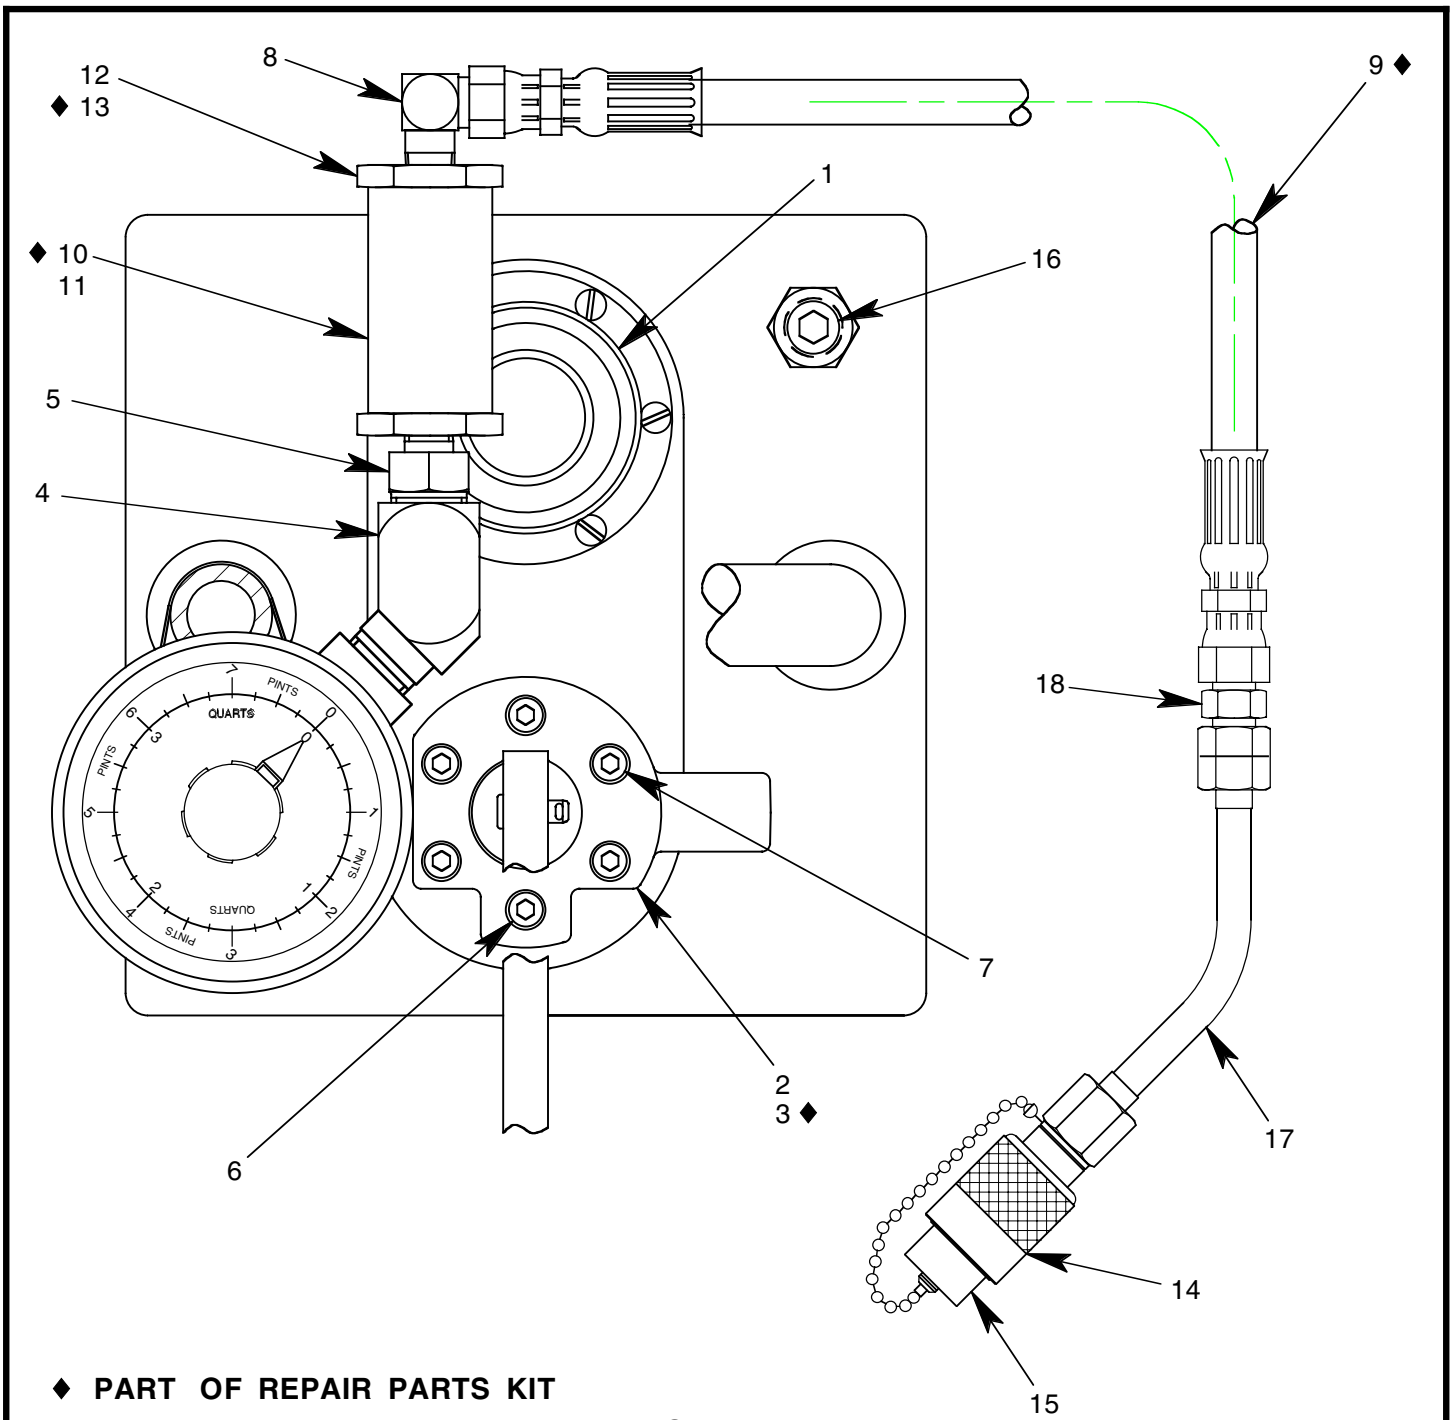

FIGURE 1B
1. The frequency of filter change depends on operating conditions. Generally, changes should be made every 3-4 months or sooner if more than normal resistance is felt on the pumping stroke at low pressure. Refer to item 10 in figure 1B (see sheet 4) to change element.